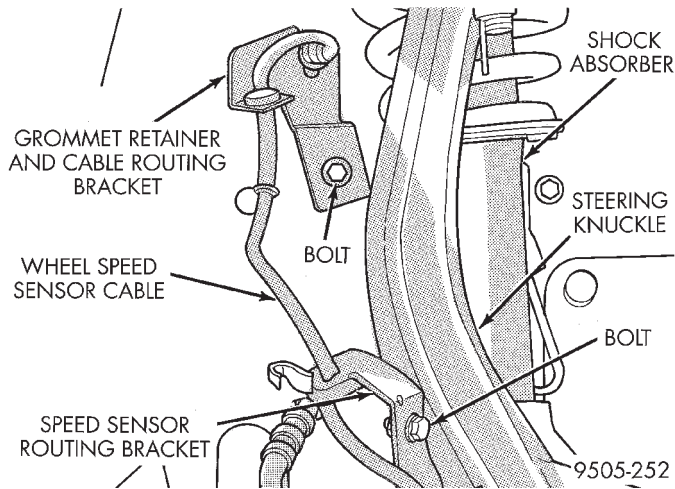

Fig. 7 Wheel Speed Sensor Cable Grommet Retainer
- (11) Remove retainer for wheel speed sensor cable grommet (Fig. 7) from right inner fender.
(17) On a vehicle equipped with antilock brakes, install wheel speed sensor cable sealing grommet in routing hole. Install retainer for wheel speed sensor cable grommet (Fig. 7) on right inner fender.